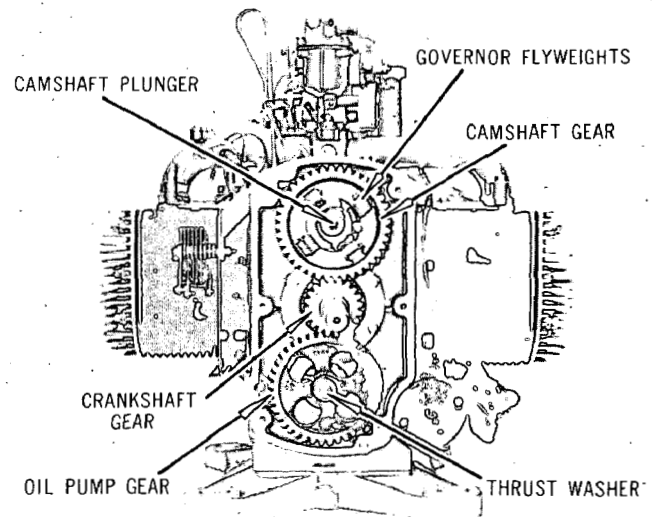

Fig. 6-4-4
**CAUTION: MAKE SURE TIMING MARKS ON CRANKSHAFT AND CAMSHAFT GEAR, FIG. 6-4-4, ARE IN PROPER ALIGNMENT.**
Make sure woodruff key is in place in keyseat in crankshaft. Mount both spacer and crankshaft gear with the large internal chamfers toward the inside of engine. Prick punch timing mark on crankshaft gear tooth should face toward the outside. (Refer to Fig. 6-4-4)